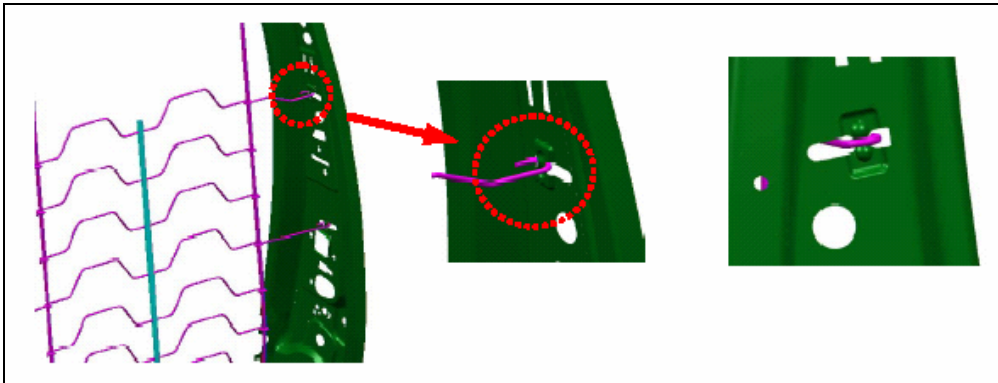

Figure 4
2. Disconnect padding support grid from the four suspension points (Figure 4), two on the right side and two on the left side.